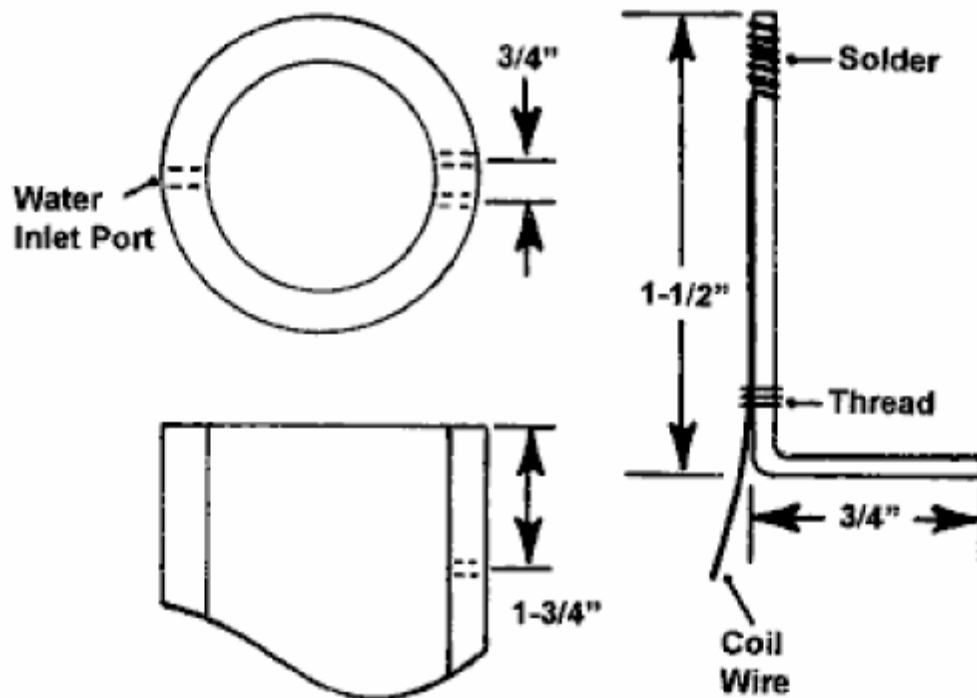

Figure 20: Toroid Coil Installation
1. Using a #41 drill bit, drill two holes in the housing wall at the locations shown Figure 20.
2. Cut two (2) 4" lengths of 3/32" bare stainless steel welding rod. Create a 90 degree bend in one end of each rod to form a leg approximately 1-1/2" long, as shown in Figure 20. Cut the other leg to a length of 3/4". Using a file, square off the ends of each rod and deburr the edges.